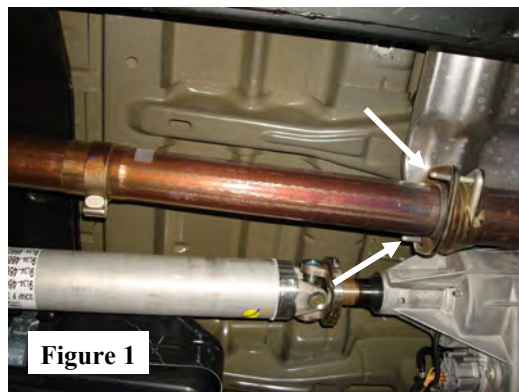

Figure 1
1. Unbolt the clamp located in front of the muffler assembly. (See Fig.1)